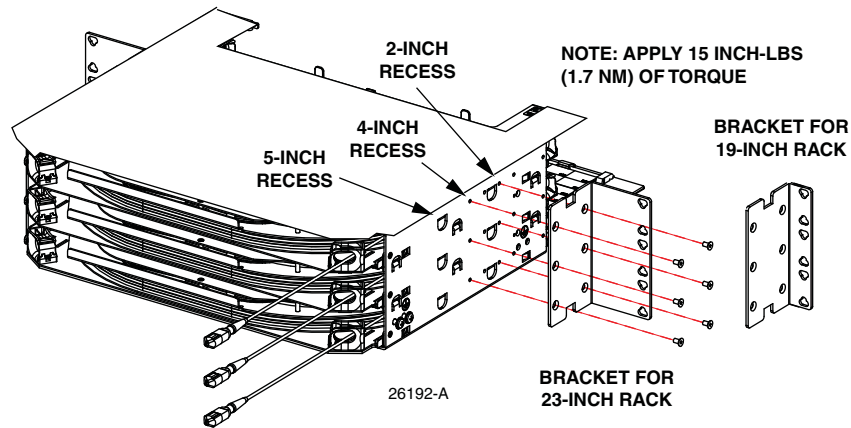

Figure 11. Removing the Mounting Brackets
- Determine if the rack or cabinet width is 19 or 23 inches. Also, determine recess required (2, 4, or 5 inches) for mounting the panel. Refer to Figure 11.
- If the panel is being installed in a 23-inch rack or cabinet in other than the 5-inch recess position, remove the 23-inch mounting brackets and re-install them at the required (2- or 4- inch) recess position. Tighten screws to the torque specification shown in Figure 11.
- If the panel is being installed in a 19-inch rack or cabinet, remove the 23-inch mounting brackets and install 19-inch brackets at the required recess (2, 4, or 5 inches) position, as shown in Figure 11. Tighten screws to the torque specification shown in Figure 11